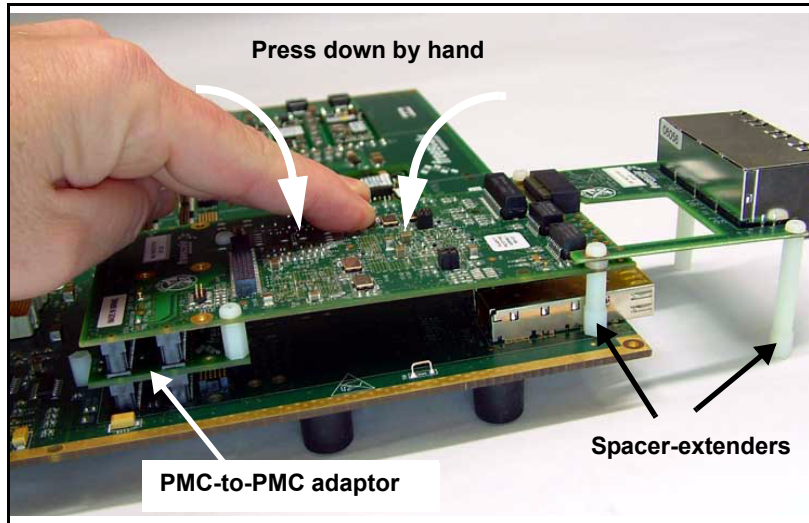

Figure 6-6. Fastening the PQS-MD-T1 module to the PIB, when the host is an MPC8568E board
3. Tighten by pressing down by hand until the adaptor clicks in place. You can then fasten the PQ-MDS-T1 module to the PMC-to-PMC adaptor, as shown in Figure 6-6.